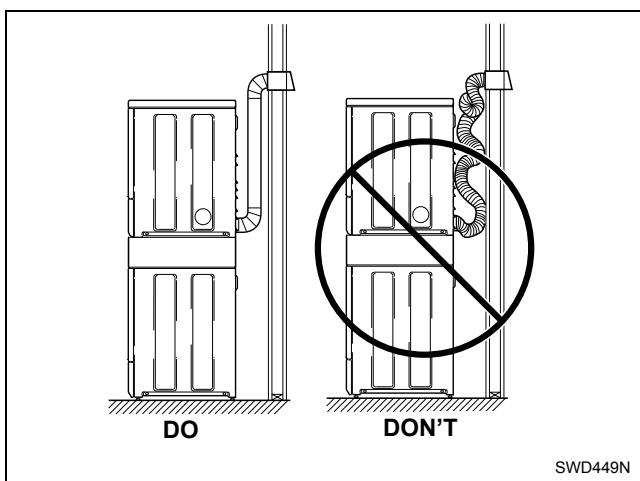

Figure 21
- DO NOT use plastic or thin foil ducting. Rigid metal duct is recommended. Refer to *Figure 21*.